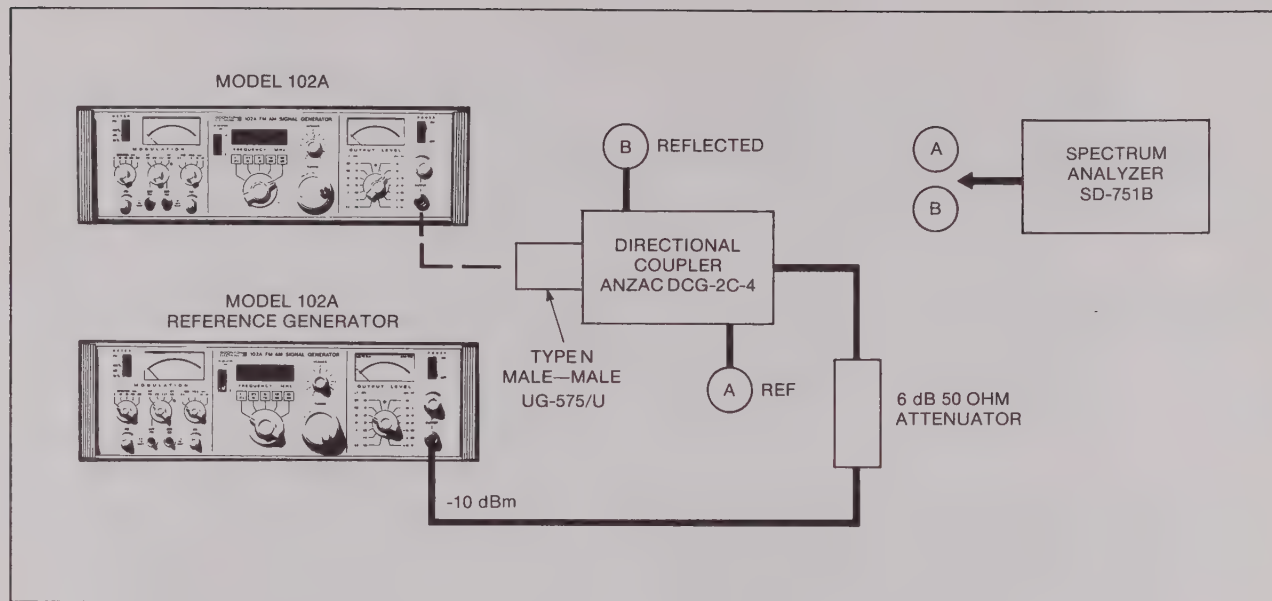

Figure 2-24 Output Impedance Check, Test Setup
a. Connect the Model 102A and test equipment as shown in Figure 2-24.
d. Connect the spectrum analyzer to point B in Figure 2-24 and observe the amplitude of the reference generator signal on the spectrum analyzer display. *The return loss, which is the difference between the amplitude observed in this step and the -30 dB amplitude of step c, should be at least 14 dB.*